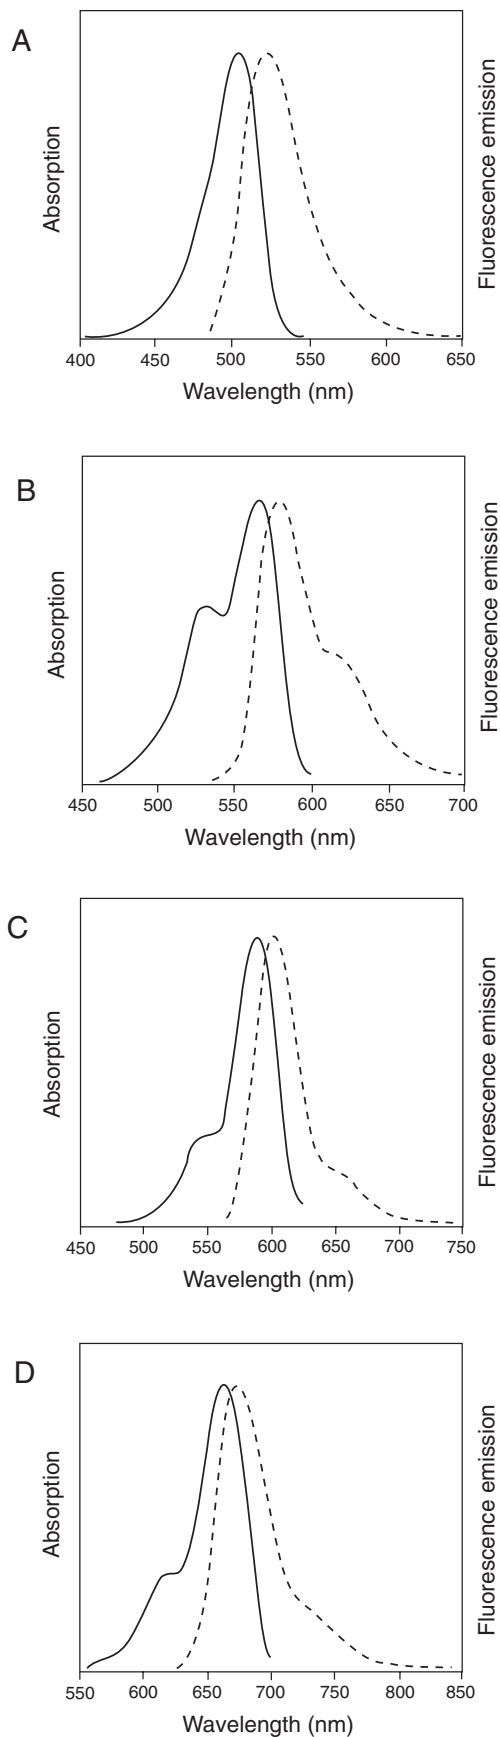

Figure 2. Absorption and fluorescence emission spectra for the A) green, B) orange, C) red and D) far-red RediPlate microplate intensity standards.
Abs/Em: See Table 1 and Figure 2
* Approximate absorption (Abs) and fluorescence emission (Em) maxima, in nm; full absorption and fluorescence emission spectra are shown in Figure 2. † When bound to nucleic acid.
1. Set up the microplate reader by selecting suitable excitation and emission filters and setting the photometric gain/sensitivity. The absorption and fluorescence emission spectra shown in Figure 2 can be used as a guide for filter selection. The photometric gain/sensitivity setting should be such that signals from the highest-reading wells (A1–H1) do not saturate the detector. If the standard is to be used as a reference for an assay readout, the excitation and emission filters and the photometric gain/sensitivity setting should be identical to those used for the assay [Note A].